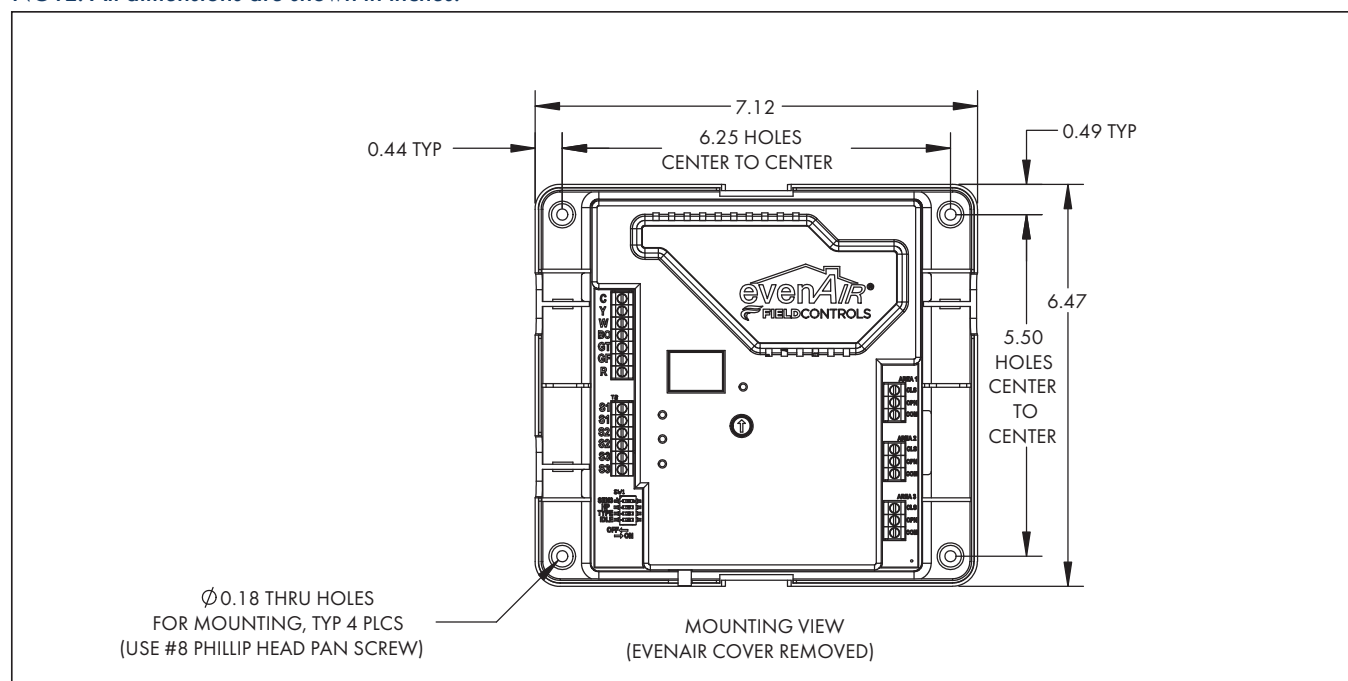
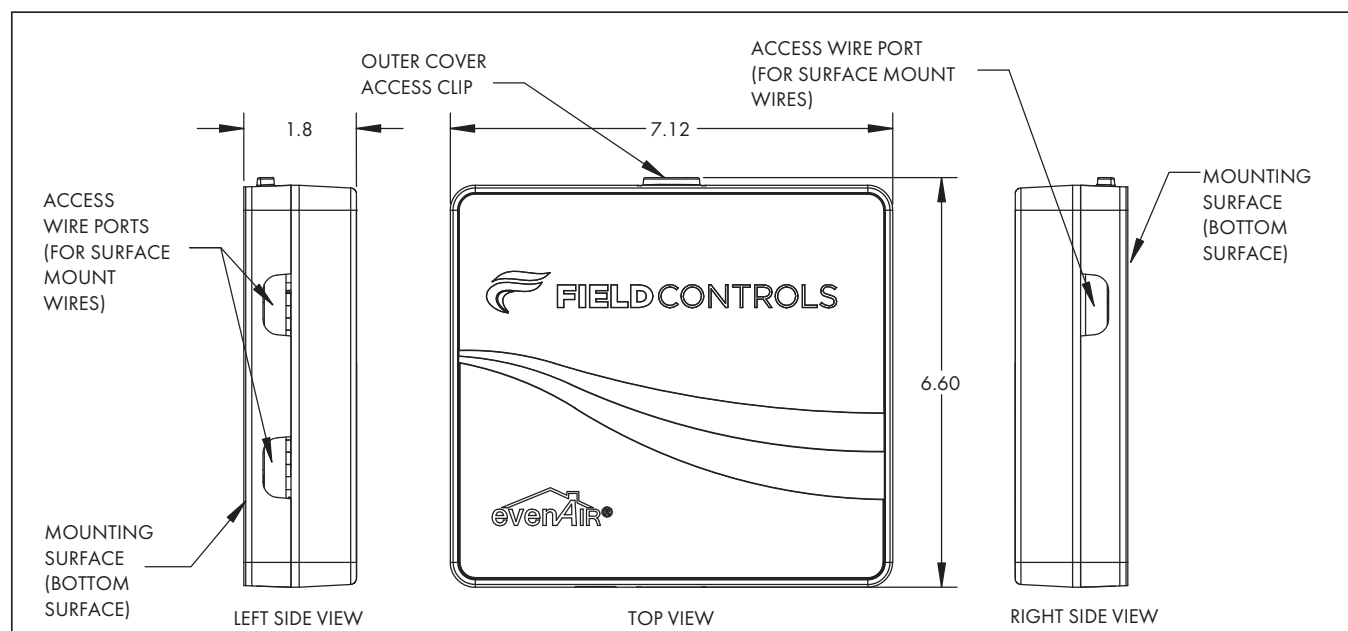
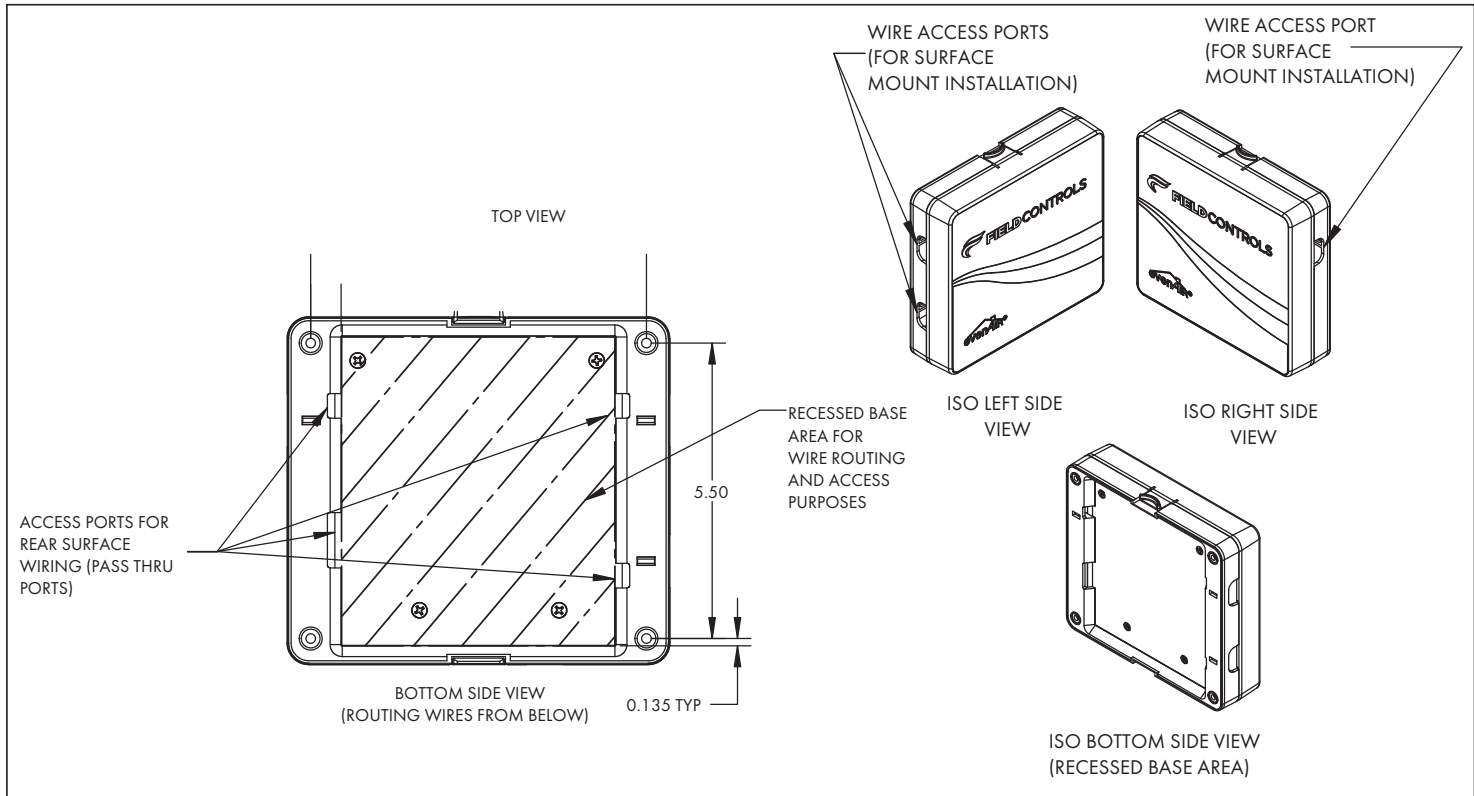

Figure 4: Mounting Hole Dimensions of EvenAir 2.0 Control Enclosure with Outer Cover Removed
Figure 5: EvenAir 2.0 Enclosure Overall Dimensions
Figure 6: EvenAir 2.0 Wire Access Ports and Rear Surface Recessed Wire Throughs
Choose a location for mounting the EvenAir 2.0 Controller enclosure near the HVAC air handler. The control enclosure is designed to be surface mounted using #8 Phillip Head Pan Screws. The screws will mount through the plastic enclosure's four (4) 0.18 inch diameter holes provided as shown in Figure 4. The overall enclosure dimensions are shown in Figure 5. The EvenAir 2.0 enclosure is designed to allow wire access to the panel's terminal blocks by either using side entrance access ports and/or from behind using the recessed wire troughs which are shown in Figure 6.